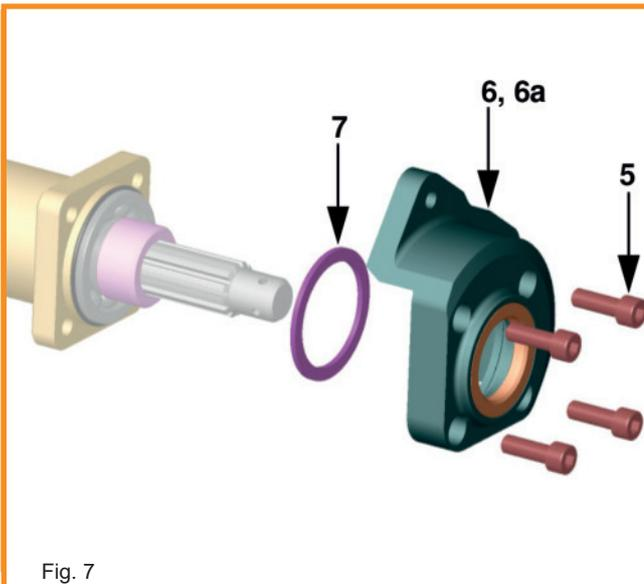

Fig. 7
**WARNING:** The 3mm spacer (Pos:7, Fig.1 & 7) (included in the kit 599 168 5205) is only required on swing axle post 1968! The installation position of the spacer is shown in the picture Fig.7.